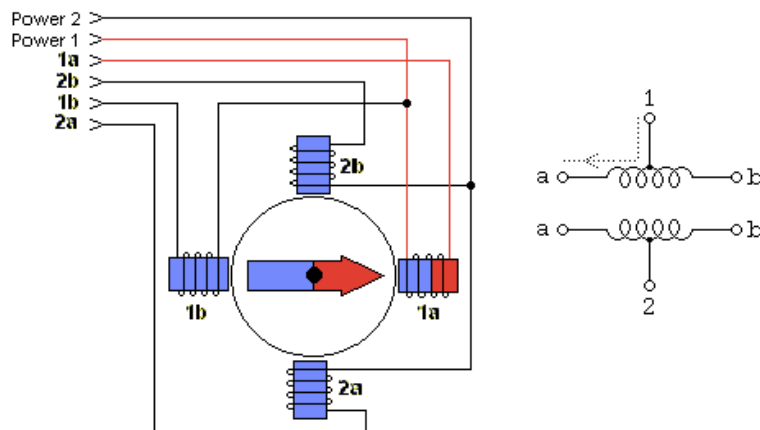

Figure 3: A unipolar stepper motor with 5 to 6 connection wires
- A unipolar motor has five or six wires. The four coils have a common centre connection (see Figure3. The common connection(s) need to be connected to ground and the other coil connections connected to the H-bridge channel on the Arduino motor shield.